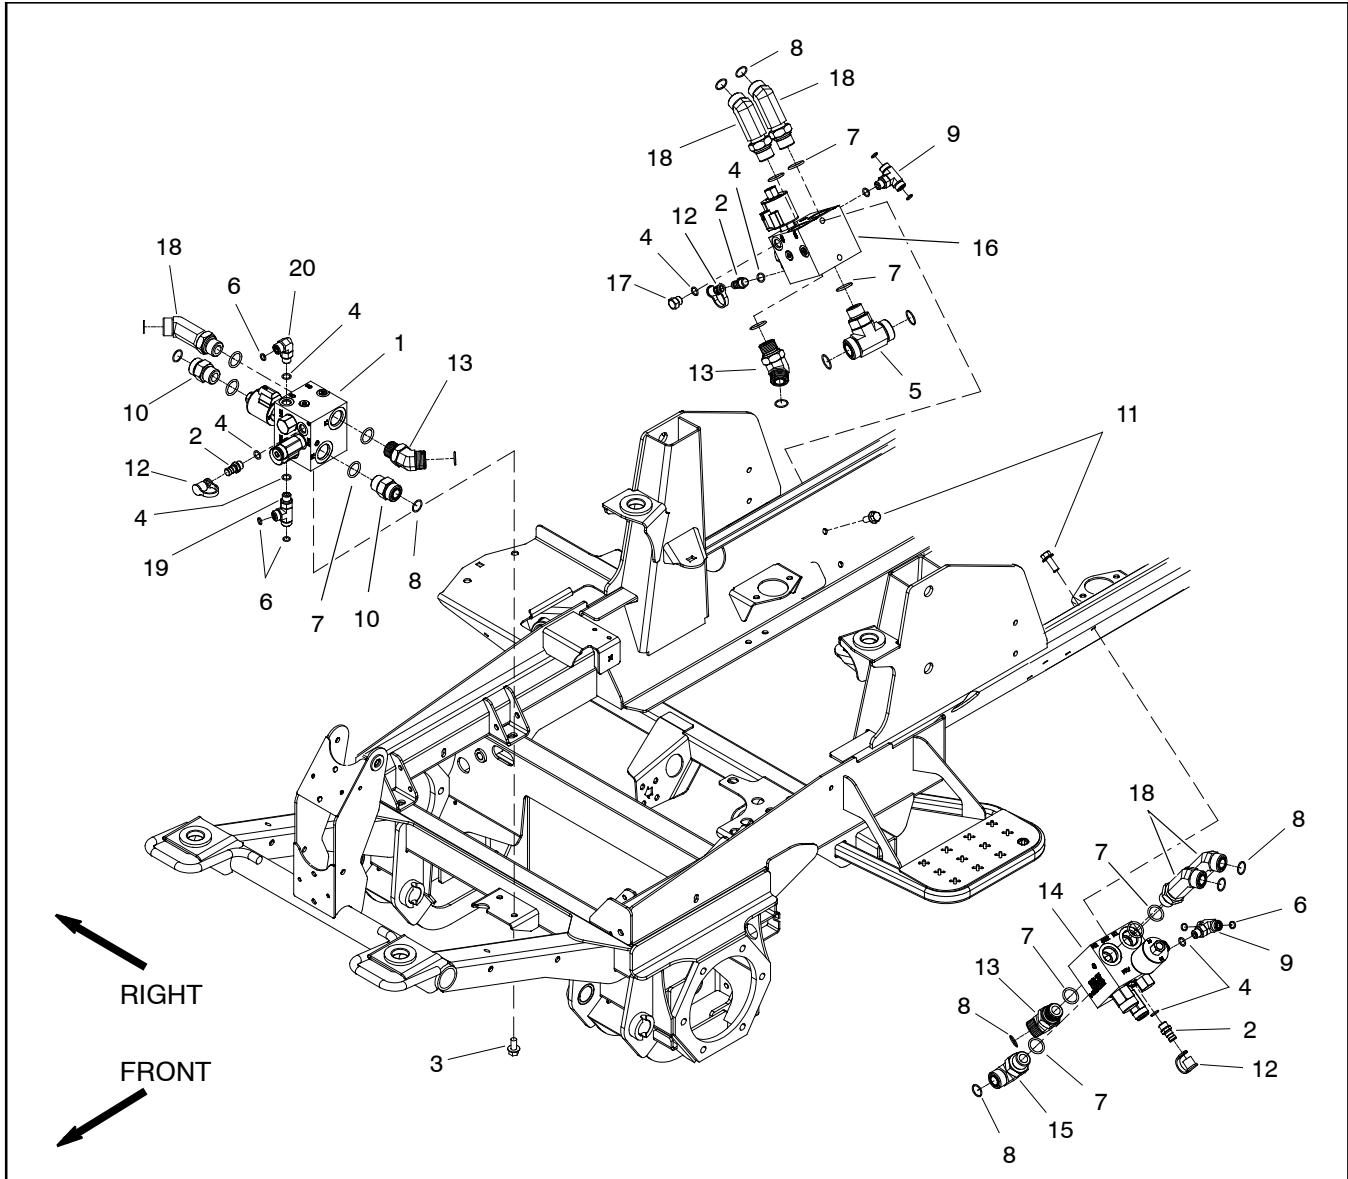

Figure 98
Removal (Fig. 98)
5. Remove PTO manifold from the frame using Figure 98 as a guide.
Installation (Fig. 98)
2. Install PTO manifold to the frame using Figure 98 as a guide.